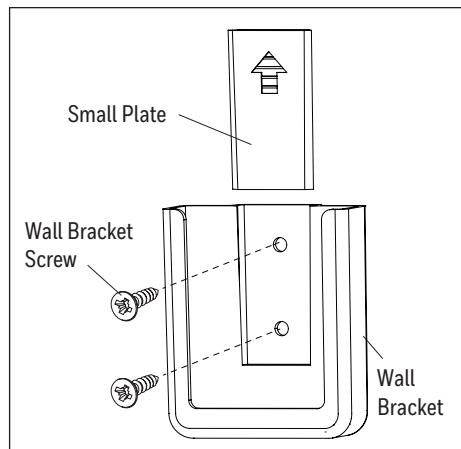

Figure 5.8
- Remote control comes equipped with a wall bracket. If you wish to install the wall bracket, remove the small plate to expose the screw holes. Insert wall brackets screws through holes and into wall, then cover with the previously removed small plate. The remote can be stored in the wall bracket for easy access (Figure 5.8).